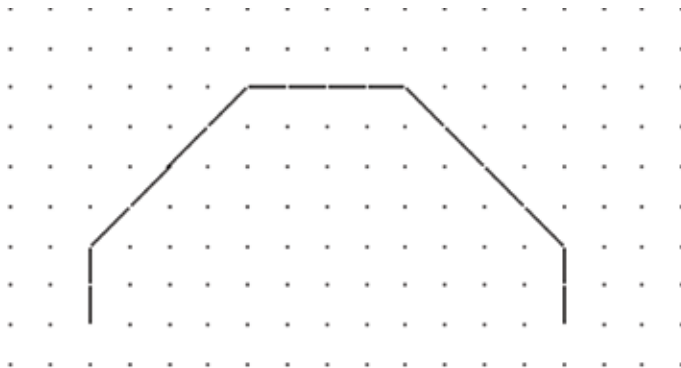

Figure 5.6
- Your original lines have been mirrored and your screen should now look like Figure 5.6.